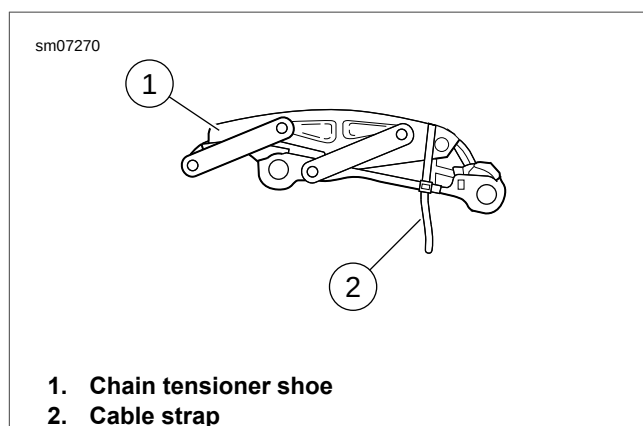

Figure 5-4. Securing Chain Tensioner
5. See Figure 5-4. Install cable strap (2) as shown. Exposed portion below cover will indicate need for removal before cover installation.